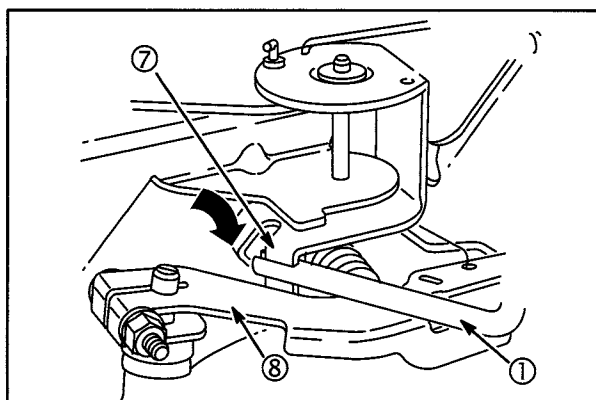

Fig. 44
7. With equipment control lever in SLOW position and engine running at governed idle RPM, use Tang Bender #19352 (1), and bend throttle restrictor tang (7) so that tang just contacts governor lever (8), Fig. 44.